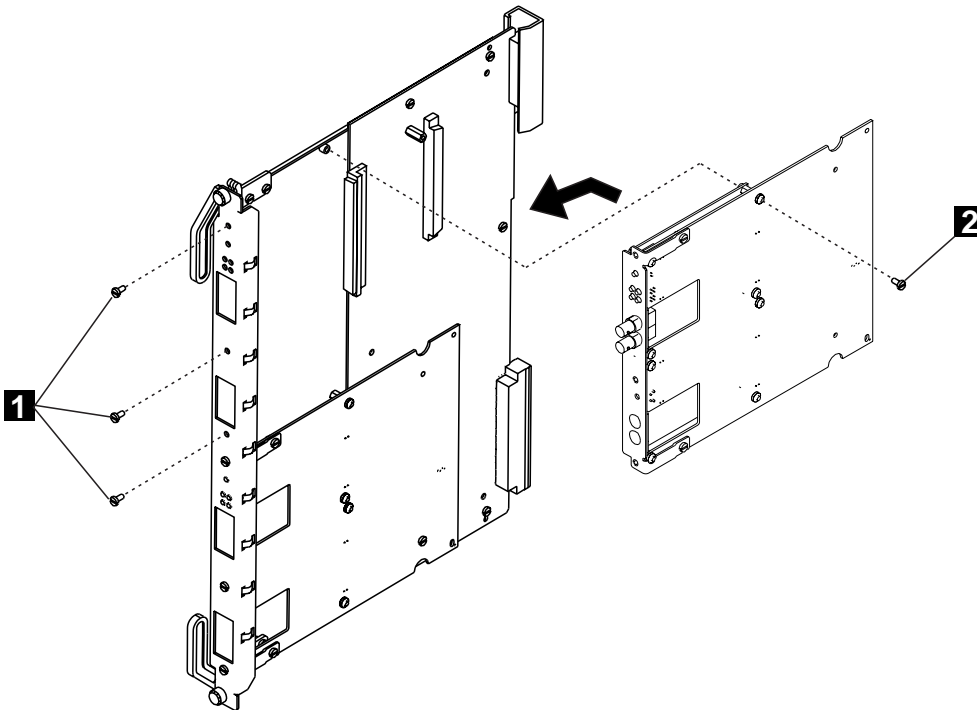

Figure 4-14. Reattaching the Motherboard
- h** Reattach the motherboard to the module using the four screws (**1** and **2** in Figure 4-14) that originally held the motherboard.